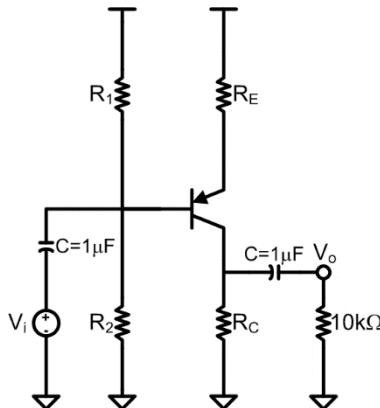

Figure 1. PNP Common-emitter amplifier
- For the circuit shown in Figure 1, using a supply voltage of 12V and the large capacitors are 1μF, calculate values of R₁, R₂, R_C and R_E that will result in the transistor operating in the FAR with a collector current, I_C, of 5 mA. Choose R_C such that the voltage drop across it is 4 V and R_E such that its voltage drop is 2 V. Enter your values in the table below, using one column for the calculated value and one for the closest 5% tolerance resistor you can find to the calculation.
- For the circuit shown in Figure 1, using a supply voltage of 12V, calculate values of R_{REF} , that will result in the transistor, Q_1 , operating in the FAR with a collector current, I_C , of 5 mA. Using convention from the text, choose R_C based on recommendations for voltage drops from the text. Enter your values in the table below, using one column for the calculated value and one for the closest 5% tolerance resistor you can find to the calculation.